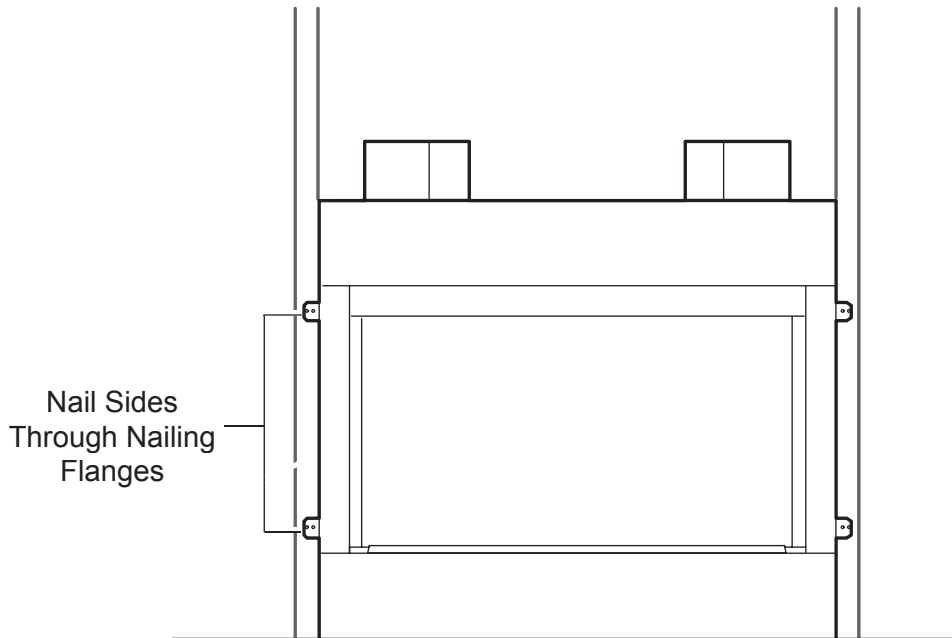

Figure 13 - Location of Nailing Flanges
4. Anchor firebox to the side framing members using 8d nails or other suitable fasteners. *See Figure 13.*